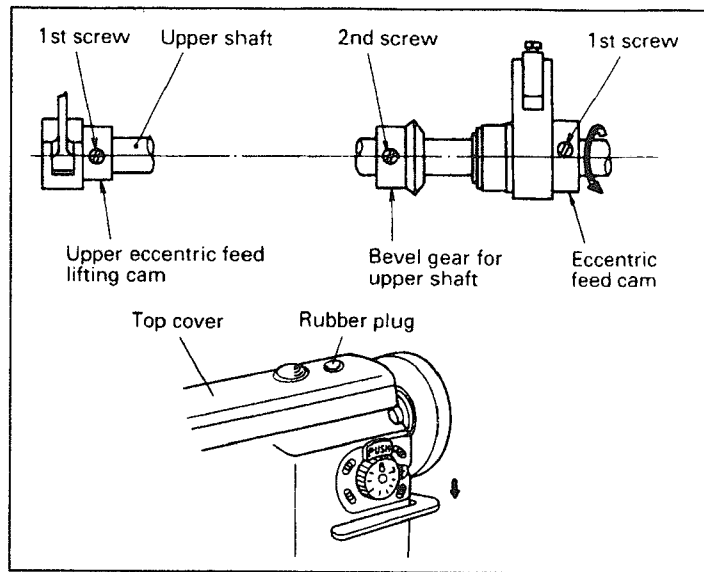

Fig.33
30、 Adjustment of feed timing (Fig.33):
1) The standard position of the eccentric feed cam and eccentric feed lifting cam are illustrated to Fig.33